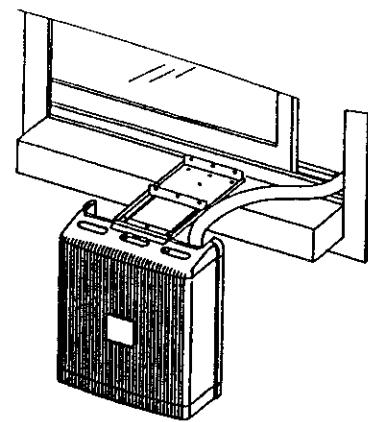
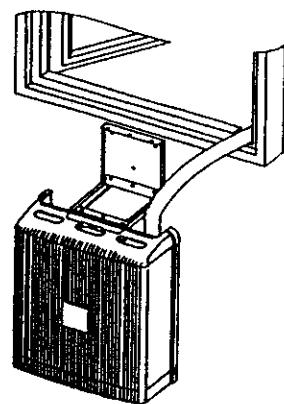
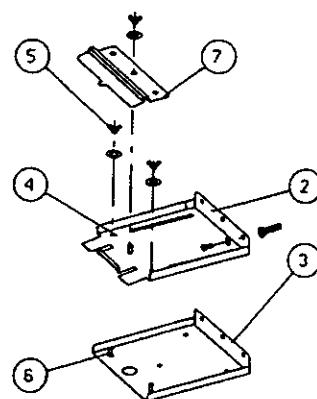

Figure 5. Suspending outdoor unit from window sill
Figure 6. Suspending outdoor unit from wall
Figure 7. Outdoor unit supporting kit
A standard kit (Figure 7), supplied with the air conditioner for supporting the outdoor unit, makes it possible to mount it either from a window sill (Figure 5) or on the wall (Figure 6).
1. Slip the unit handle over the sliding bracket (2) (Figure 7) of the unit support (see Figures 5 and 6).
2. For window mounting, refer to figure 5. Place the fixed support (3) (Figure 7) on the window frame, drill three holes in the window frame and mount the support securely with three screws.
3. Place the sliding bracket (2) so that its slots (4) fit into the matching studs (6) in the fixed support (3). Secure sliding bracket with wing nuts (5) (Figure 7). Suspend the outdoor unit on the sliding bracket.
4. Slide the unit to the most suitable place (minimum 100 mm from wall) and tighten the two wing nuts (5) (Figure 7).
5. Place the securing bracket (7) (Figure 7) in place and tighten it. Verify that the unit is well supported, stable and secured.
6. For wall mounting, refer to Figure 6. Place fixed bracket (3) against wall, drill three holes in the wall and fasten with three screws; verify that the support is level.
7. Engage the sliding bracket with the two holes over the two studs and tighten the wing nuts (5). Install the securing bracket (7). Verify that the unit is well supported and stable.